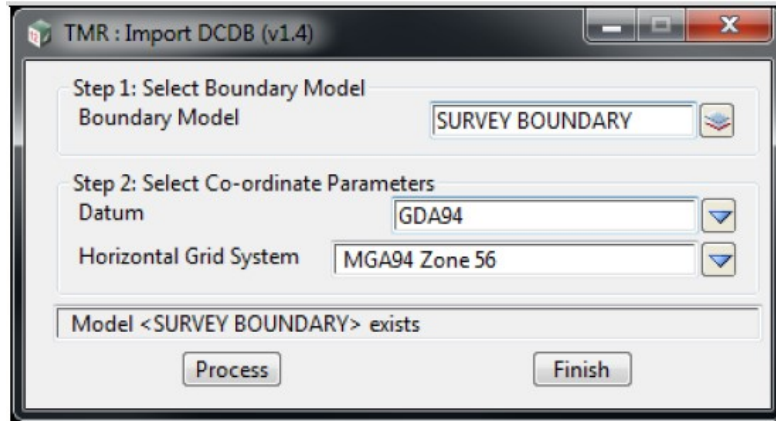

Figure 3: TMR Import DCDB Macro
- DCDB Import macro that downloads the most current DCDB information from our internal Oracle Server. (Refer to Figure 3: DCDB Import Macro)